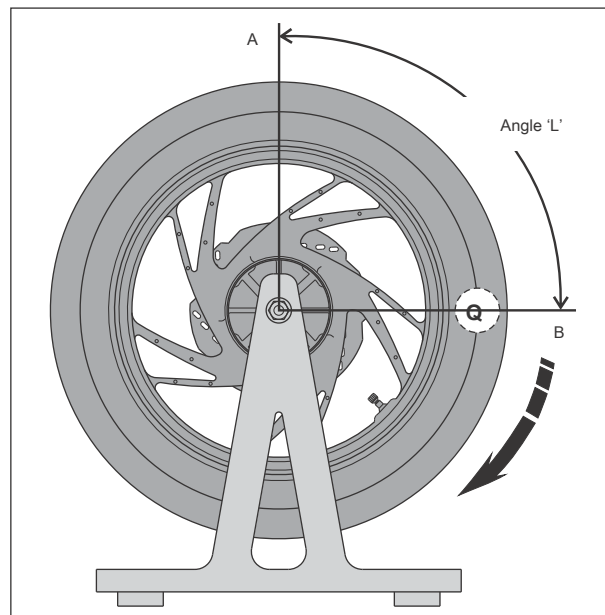

Fig. 2.133
3. Hold the wheel by hand and rotate it $\frac{1}{4}$ turn downwards (angle 'L' indicated in the figure) and leave. (Fig. 2.133)